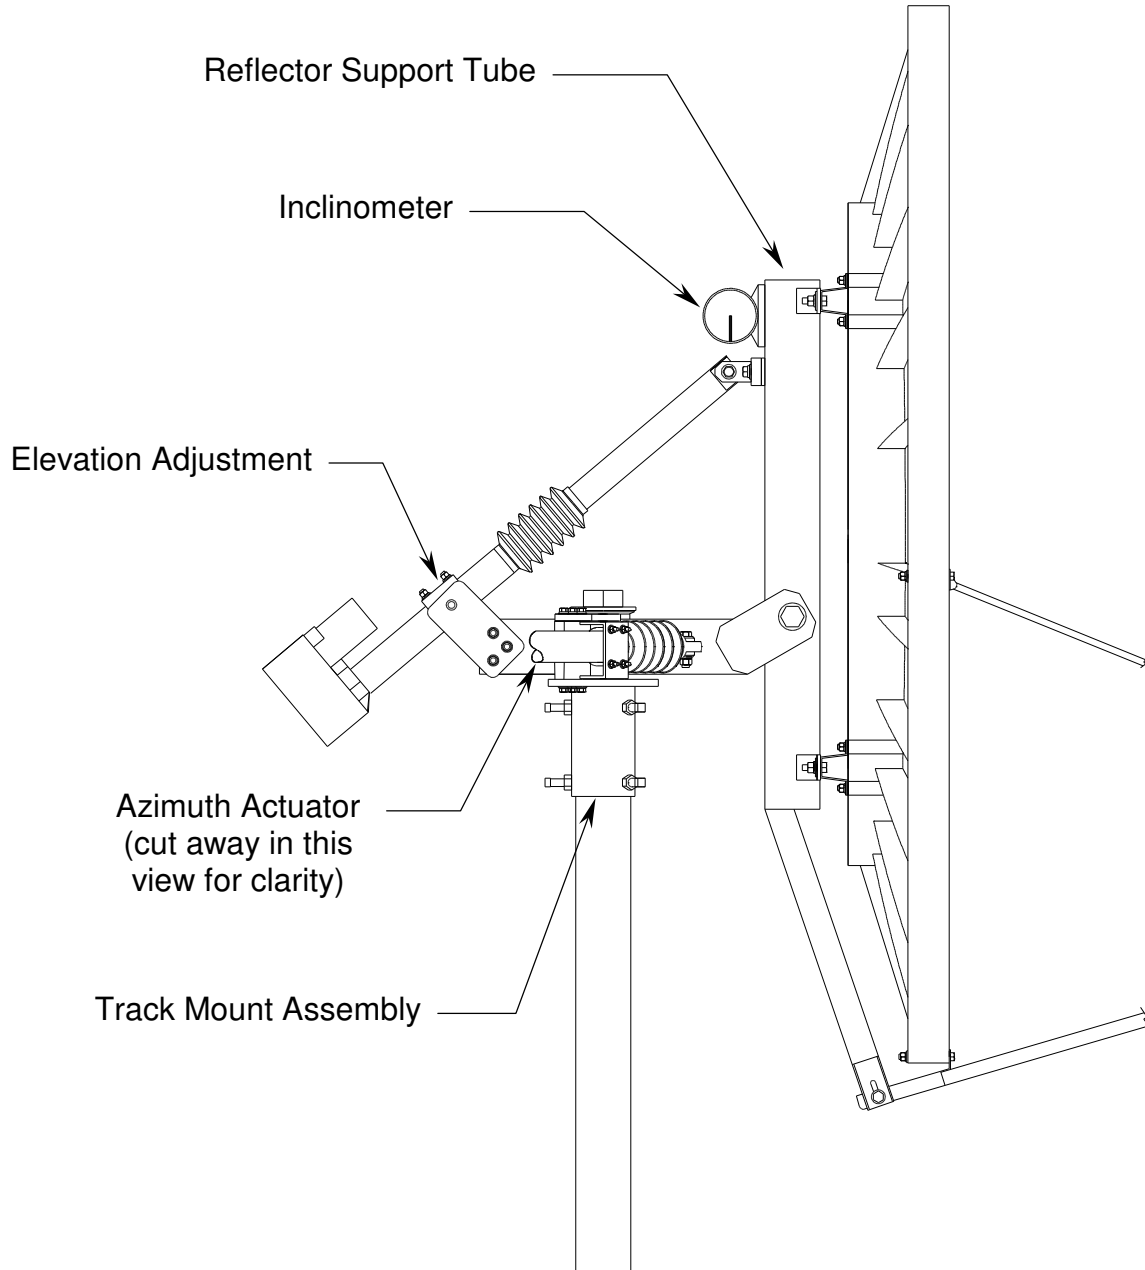

Figure 5
- STEP 8: The elevation is adjusted by loosening the four hex nuts on the elevation gimbal and sliding the gimbal to the correct location on the actuator tube. The four hex nuts are then tightened to secure the gimbal. NOTE: DO NOT OVER TIGHTEN THE FOUR HEX NUTS BECAUSE THE ACTUATORS CAN BE PERMANENTLY DAMAGED! Tighten the hex nuts 1/2 a turn after the split lockwashers flatten out. The setup angle is the elevation angle from the LOTUS spread sheet minus the 22.3 offset angle. This setup angle should be measured using an inclinometer as shown in figure 5. NOTE: To insure that the mount will have the full +/- 10 of travel in elevation. it is important to set the reflector support tube angle within +/- 1 of the setup angle.